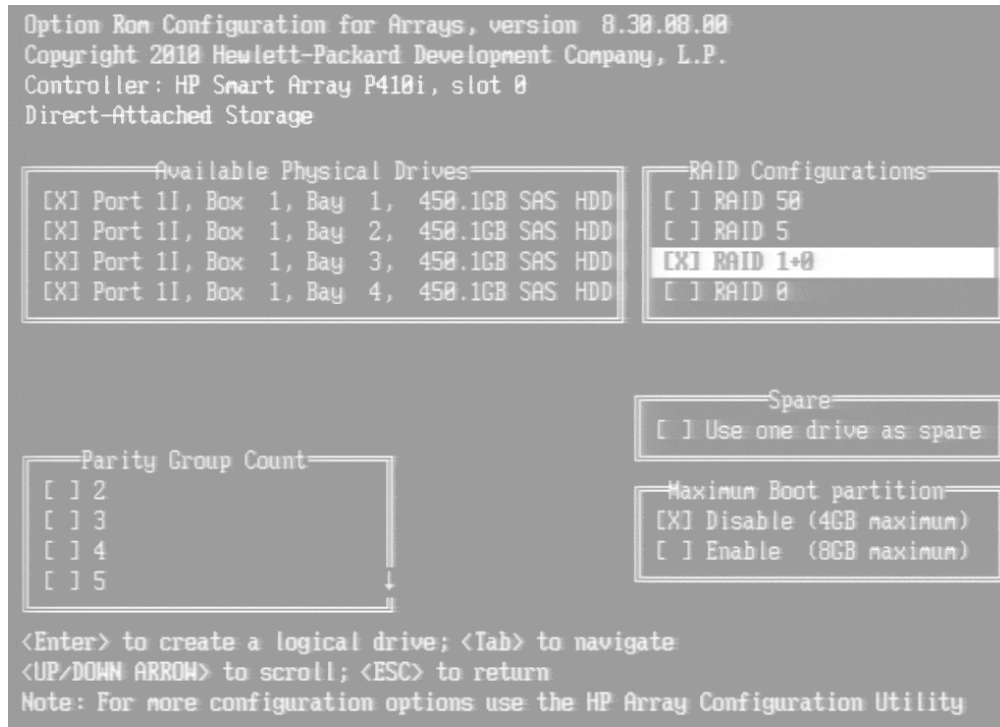

Figure 3: Create Logical Drive in RAID BIOS
5. Follow the steps in the table below, using the configuration requirements for your particular server, to recreate the array configuration required by the device (see Appendix A, Figure 3).